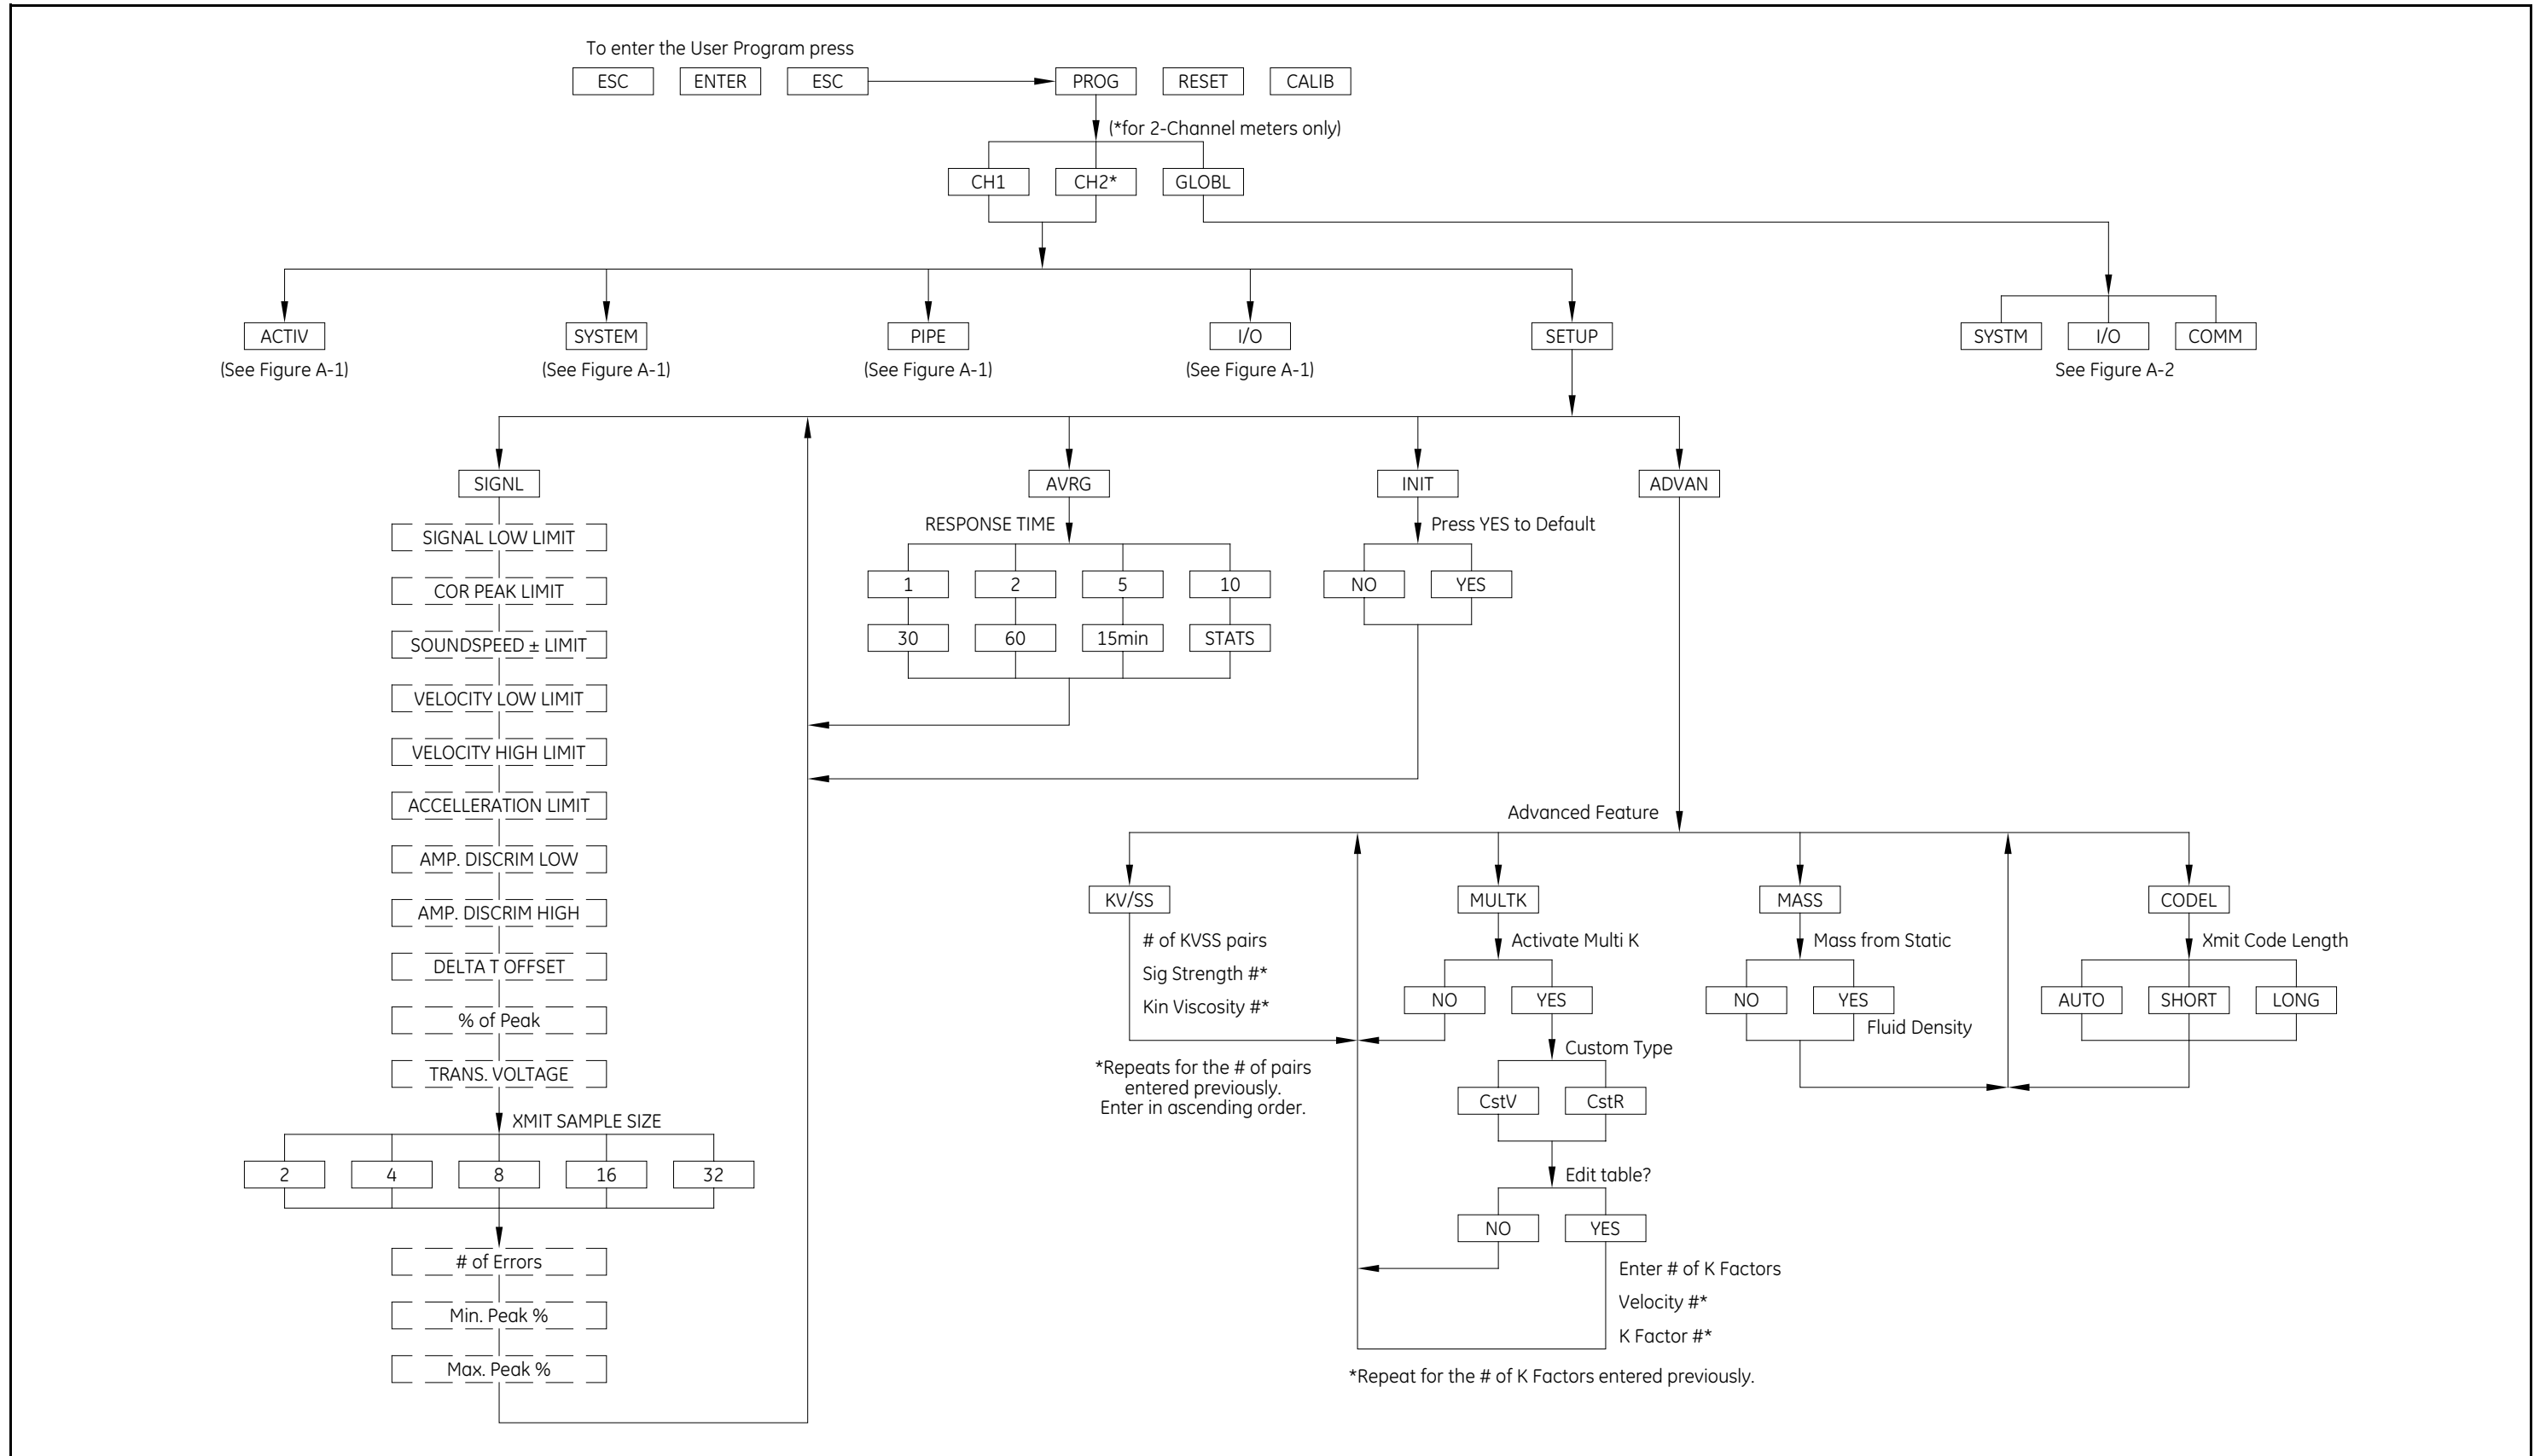

Figure 12: The CHx>SETUP Menu Map
- Figure 12, “The CHx>SETUP Menu Map,” on page 81